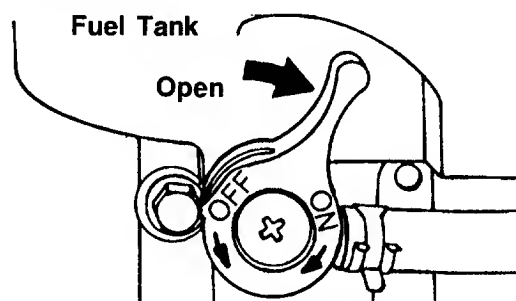

FIGURE 23.
3. The fuel shut-off valve is located beneath the fuel tank. The fuel shut-off valve should be in the open position. See figure 23. Open fuel shut-off valve if it is closed.